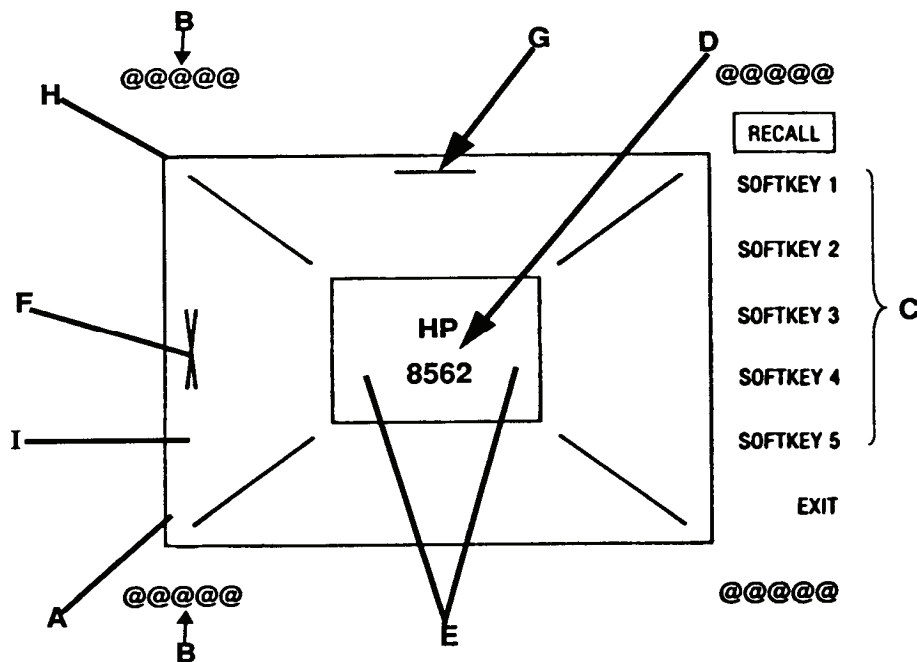

Figure 1. Crt adjustment pattern.
- 2. Refer to C in figure 1 for softkey location.
**c.** Press TI keys as listed in (1) through (3) below:
- (1) **INSTRUMENT STATE RECALL.**
- (2) **[MORE].**
- (3) **[CRT ADJ PATTERN].**
**d.** Adjust **TRACE ALIGN** (rear panel) until leftmost line of test pattern A (fig. 1) is parallel with crt bezel.
**e.** Adjust **X POSN** (rear panel) until leftmost @ characters B (fig. 1) and softkey labels C (fig. 1) appear just inside left and right edges of crt bezel.
**f.** Adjust **Y POSN** (rear panel) until the softkey labels C (fig. 1) align with the appropriate softkeys.